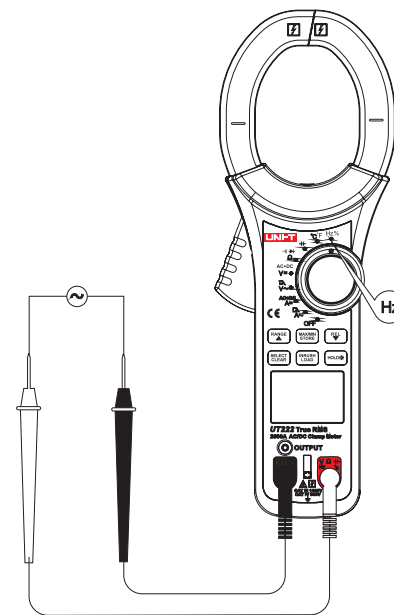

Figure 10
7. Frequency/duty ratio measurement (See Figure 10)
- Current measurement must be operated within $0^{\circ}\text{C} \sim 40^{\circ}\text{C}$, if positive reading is achieved after measuring DC current, the current direction will be from up to down (See Figure 10: the upward is panel and base cap is downward). Do not loosen trigger abruptly, since Hall component is sensitive in some extent to magnet, heat and mechanical stress, but also to the impact, which may cause short-time reading variation.